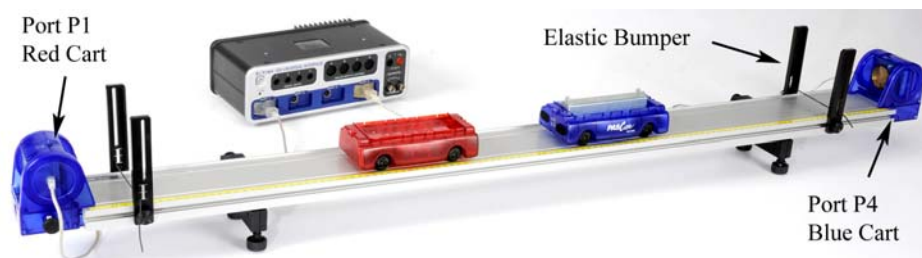

Figure 1: The velocity of each cart is measured using Motion Sensors
1. Install both elastic bumpers and adjustable feet as shown in Figure 1.
3. Attach the Motion Sensors to the track. You must keep the orientation shown (see Fig. 1), with the Motion Sensor monitoring the red cart plugged into port P1 on the interface and the Motion Sensor monitoring the blue cart plugged into port P4.